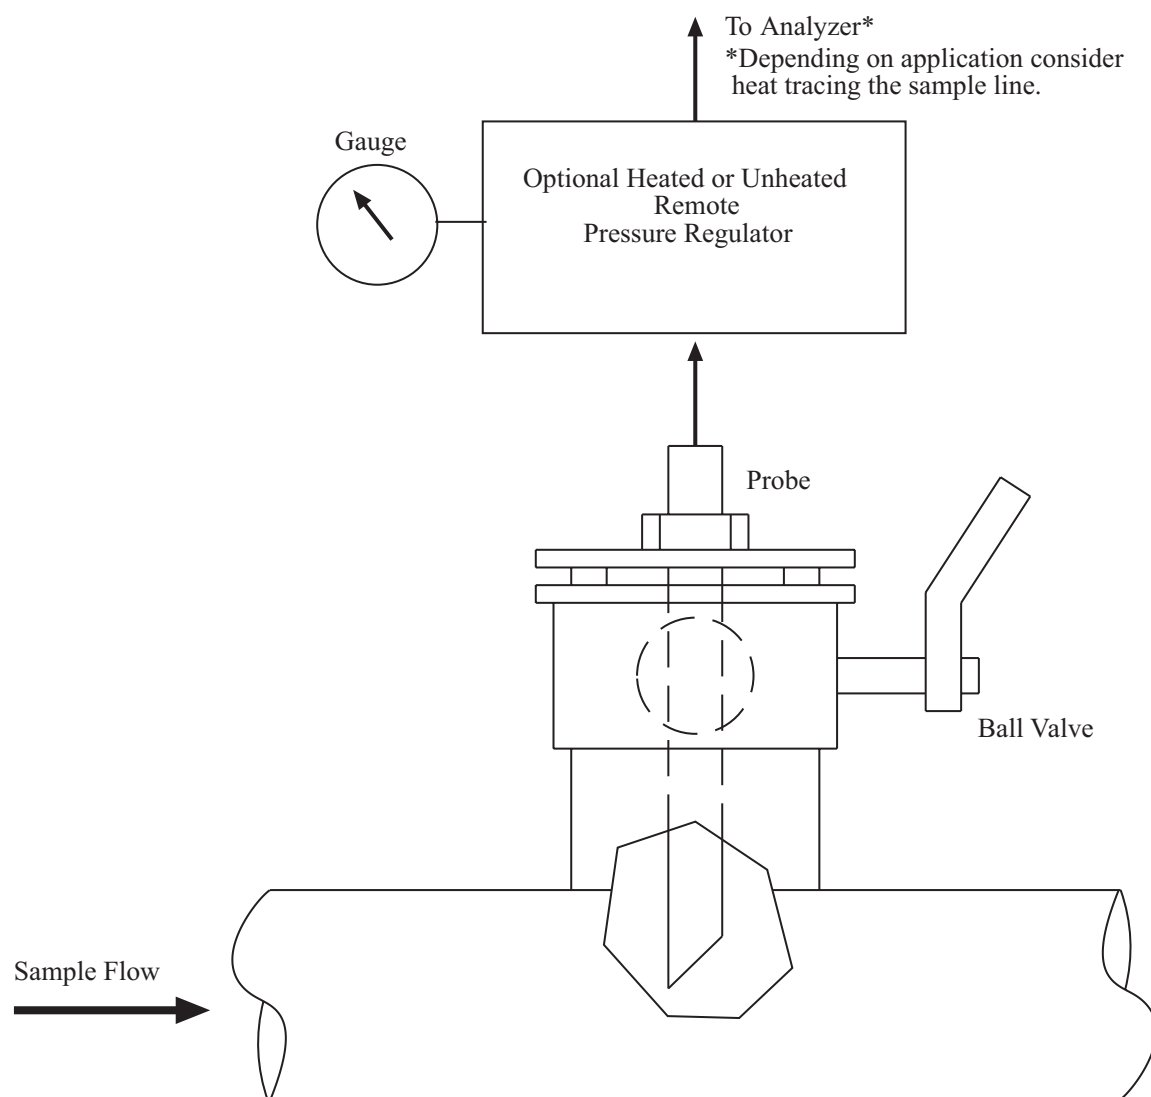

Figure 2-3.
Pressure reduction is user-supplied to ensure sample pressure to the analyzer remains within the range of 20–50 PSIG. The pressure reducer/regulator with gauge should be installed near the Sample tap, between the tap and analyzer (see Figure 2-3). For optimum performance, the sample line should be heat traced to maintain a constant sample temperature. Optimum Sample gas input is 60 °C.
1. If not already installed, install a main process shut-off valve and pressure reducer (recommended) at the Sample tap (Figure 2-3).